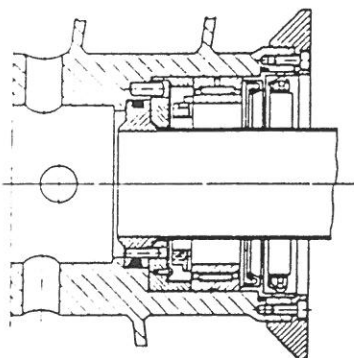

Figure 10
1. The bearing parts are mounted in the end of the conveyor, see figure 10. Take off the lock ring (10) after removing the screws (11) holding it to the conveyor. Not all lock rings are tapered as shown in figure 10, but they are removed likewise.